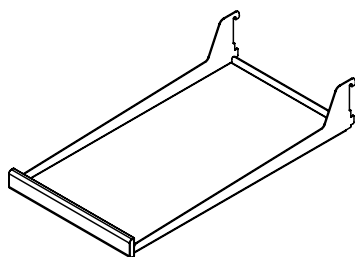

Figure 34
(1) half width flat glass cantilever shelf. (See Figure 34).